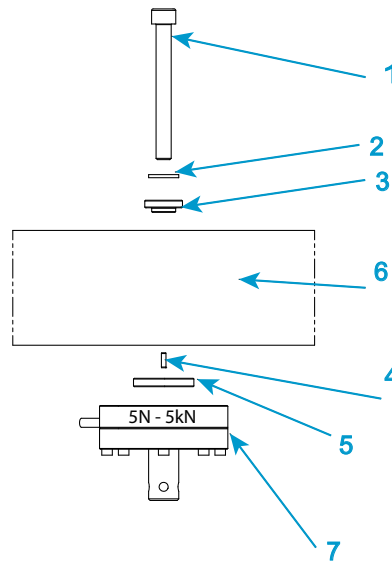

Figure 17. Install a 2530 series load cell - capacities 5 N through 5 kN
Legend for Figure 17
1. Refer to Figure 17 on page 80 and its associated legend.